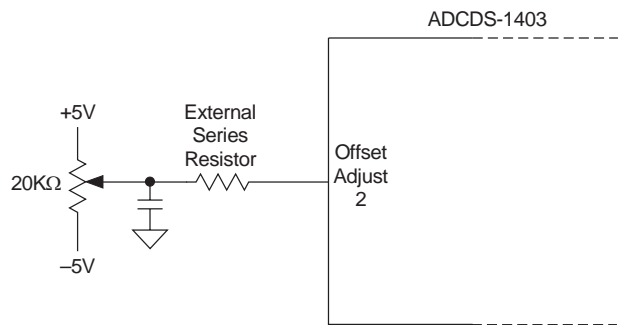
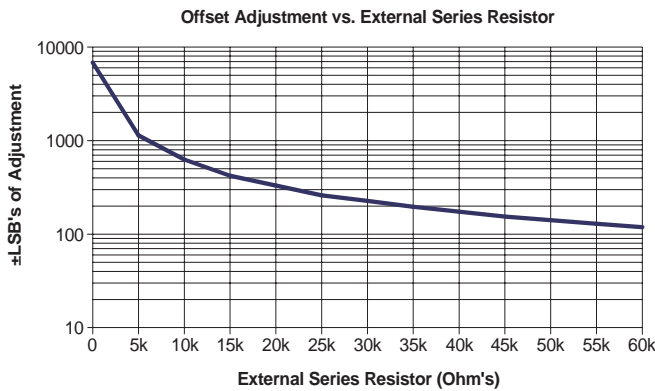

Figure 3. Offset Adjustment Circuit
Figure 6. Offset Adjustment vs. External Series Resistor
- If using the suggested offset and gain adjust circuits (Figure 3 & 5), place them as close to the ADCDS-1403's package as possible.
Manual offset adjustment for the ADCDS-1403 can be accomplished using the adjustment circuit shown in Figure 3. A software controlled D/A converter can be substituted for the 20KΩ potentiometer. The offset adjustment feature allows the user to adjust the Offset/Dark Current level of the ADCDS-1403 until the output bits are 00 0000 0000 0000 and the LSB flickers between 0 and 1. Offset adjust should be performed before gain adjust to avoid interaction. The ADCDS-1403's offset adjustment is dependent on the value of the external series resistor used in the offset adjust circuit (Figure 3). The Offset Adjustment graph (Figure 6) illustrates the typical relationship between the external series resistor value and its offset adjustment capability utilizing ±5V supplies.